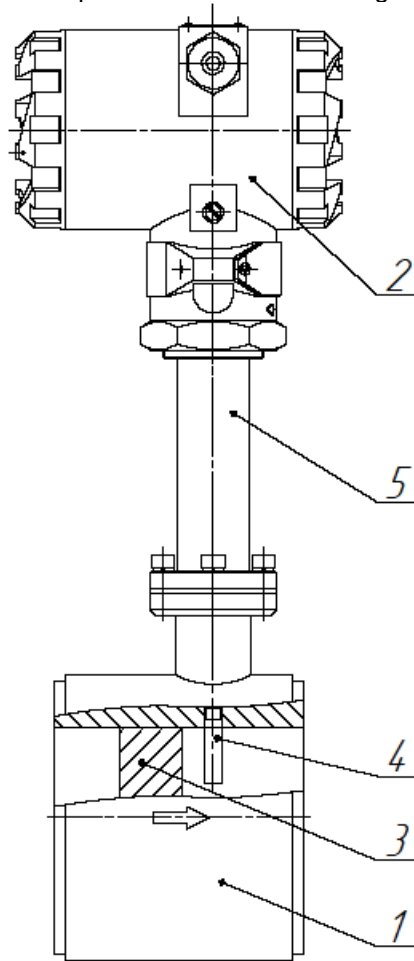

Fig.1.1 - flow meter structure
Full-bore transmitter (see fig.1.1) consists of the flow tube (1) and electronic transmitter unit (2). Flow tube is a hollow cylinder with bluff body installed in cross-sectional area. Sensor (3) is installed behind the bluff body (4). Electronic unit (2) is installed on the flow meter body using support bar (5). Electronic boards are installed inside the transmitter.